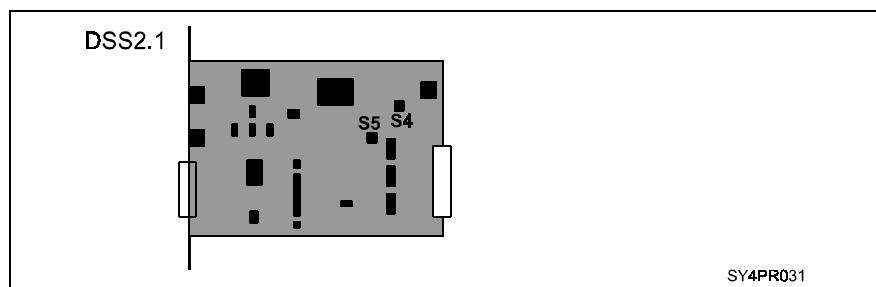

Fig. 6-16: DIP switch of the DSS 2.1 (DIAX03, DIAX04)
The transmission rate must be checked at the CLC and the respective drive (see Fig. 6-16).
Output power must be checked at the CLC and the physical predecessors of the relevant drive (see Fig. 6-16).
- DIAX03, DIAX04 (DSS 2.1)** Output power is set via switches S5A and S5B on the DSS 2.1 card (see Fig. 6-16).